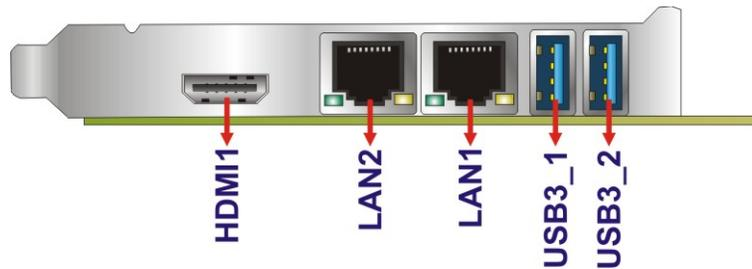

Figure 3-28: External Peripheral Interface Connector
- CN Location:** See Figure 3-28
- CN Location:** See **Figure 3-28**